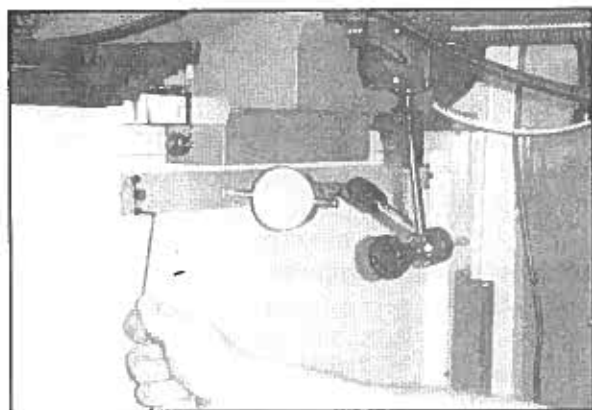

Figure 16. Mounting scale on backing plate.
3. Mount the scale on the backing plate using the pre-drilled holes (**Figure 16**), checking that the scale is parallel with the machine slide with a dial indicator.